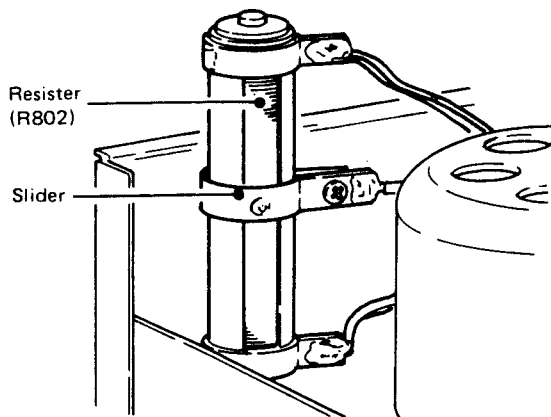

Fig. 2-6
12. If necessary, adjust the slider of resistor (R802) until the proper torque values in both forward and reverse play modes are obtained. See Fig. 2-6.